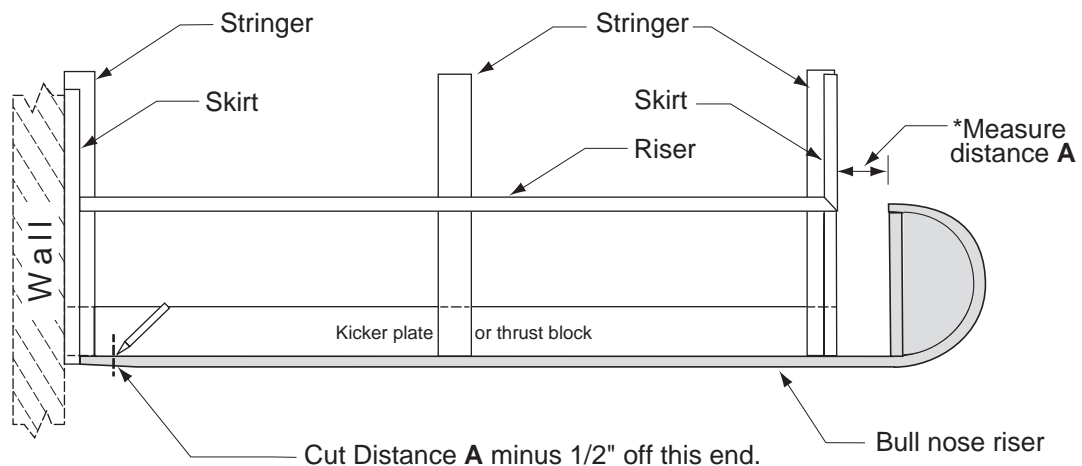

Fig. 2-11 *Measuring Bullnose Riser for rough cut.*
2. Measure distance from the curved end of the riser to skirt. Please note Fig. 2-11 here.